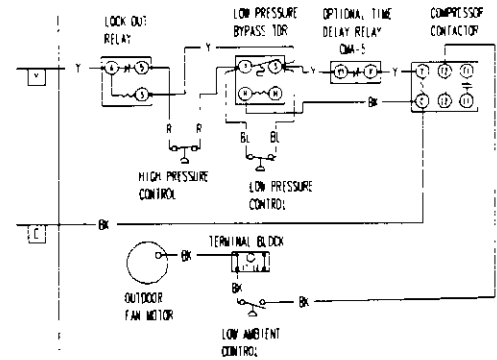

Figure 11 — Installation Instructions for CMA-11 Dual Pressure and Low Ambient Fan Cycling Control
- Step 2.** Disconnect yellow low voltage (Y) wire at compressor contactor coil or (Y1) at optional CMA-5 and reconnect to terminal #4 of the lockout relay.
- Step 3.** Connect the black wire from terminal H of the low pressure bypass TDR to the common (C) side of the compressor contactor coil.
- Step 4.** Connect yellow wire from terminal #1 or (Y) of the low pressure bypass relay to the (Y) terminal of the compressor contactor coil or (Y1) at optional CMA-5. This is the terminal that the wire was removed from in Step 2.
- Step 10.** Recheck wiring. Refer to Figure 11. Energize unit in first stage cooling. Compressor should start. Run the unit for at least 5 minutes. The unit should not go into lockout. The condenser fan motor should not run until the discharge pressure has exceeded 300 PSI. Should the discharge pressure fall below 200 PSI while running, the condenser fan motor will de-energize until the head pressure builds to 300 PSI.